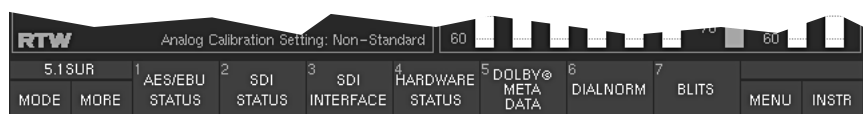

Fig. 3-7: The second Toolbar instrument level (displayed by selecting MORE)
2. If you want to choose one of the other seven instruments, press or click the **MORE** key/button. The buttons numbered **1** to **7** in the Toolbar now show a second level of available instrument types (display modes, see Fig. 3-7).